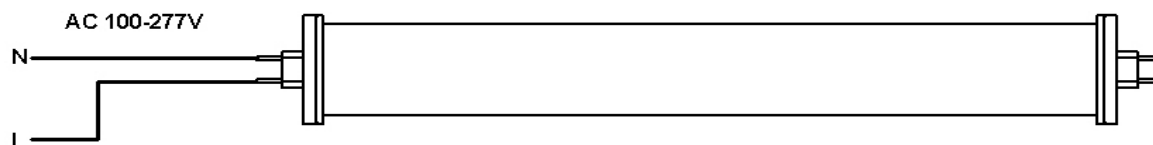

Figure 1: Non Shunted Lamp Holders (CAUTION: For Direct AC Connection, Use NON-SHUNTED Lampholders Only)
6. Ensure that the fixture contains non-shunted G13 bi-pin lamp holders (Figure 1). Also ensure the sockets are in good working order. If there is any doubt, replace the sockets with new ones.